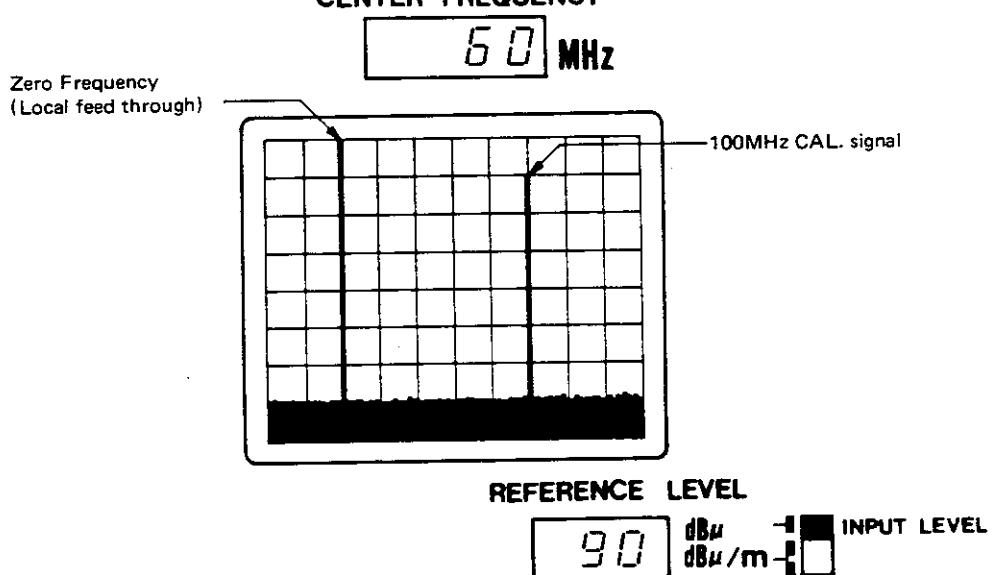

Fig. 3-4 Scan Linearity Check Procedure
- (1) Reset specific controls from the initial settings (Para 3-3-1-(3)) as follows:
- (2) Adjust **TUNING** to correspond the zero frequency signal (Local feed through) on the third vertical line at the left of the CRT display. [Fig. 3-4]
- (3) Observe that the deviation of 100MHz CAL. signal to the fourth vertical line from the right is within  $\pm 0.25$  divisions.
- (4) Turn **TUNING** to correspond 100MHz CAL. signal to the third vertical line from the left and observe the error of 200MHz harmonic signal to the fourth vertical line from the right.
- (5) Likewise, proceed to check the linearity for 900MHz to 1000MHz.